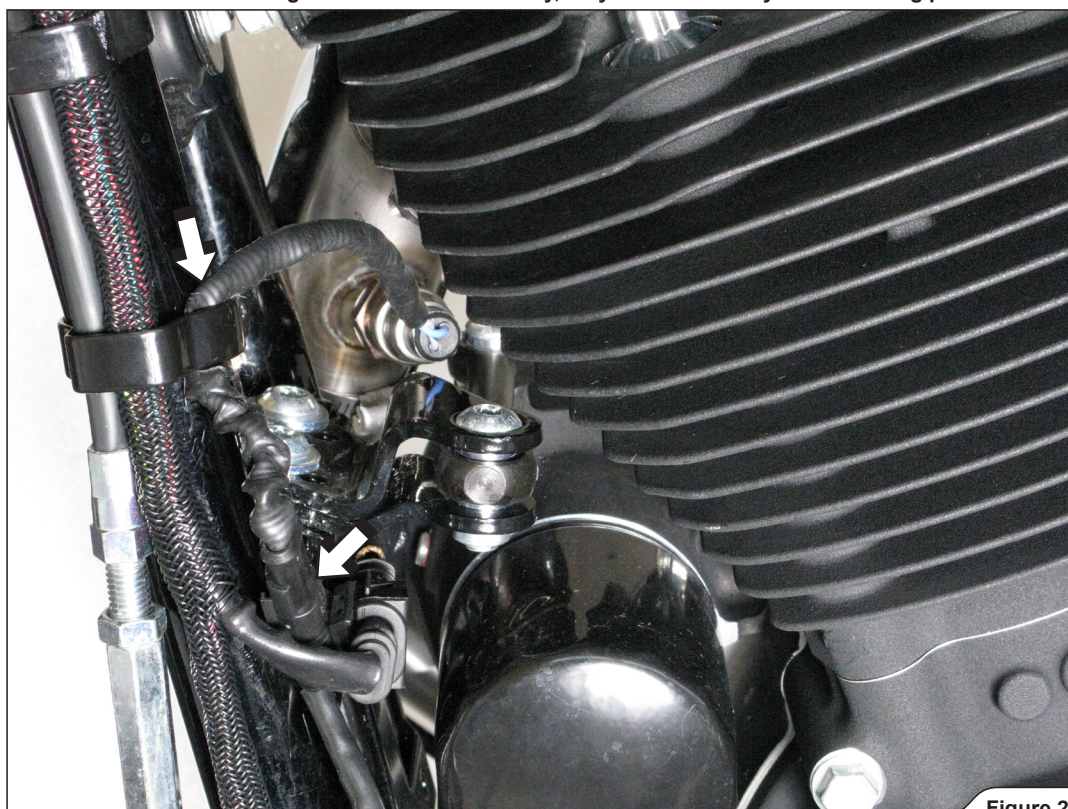

Figure 22
13. Reconnect the front and rear lambda sensors' electrical connectors and secure the wiring harnesses (Figure 22).